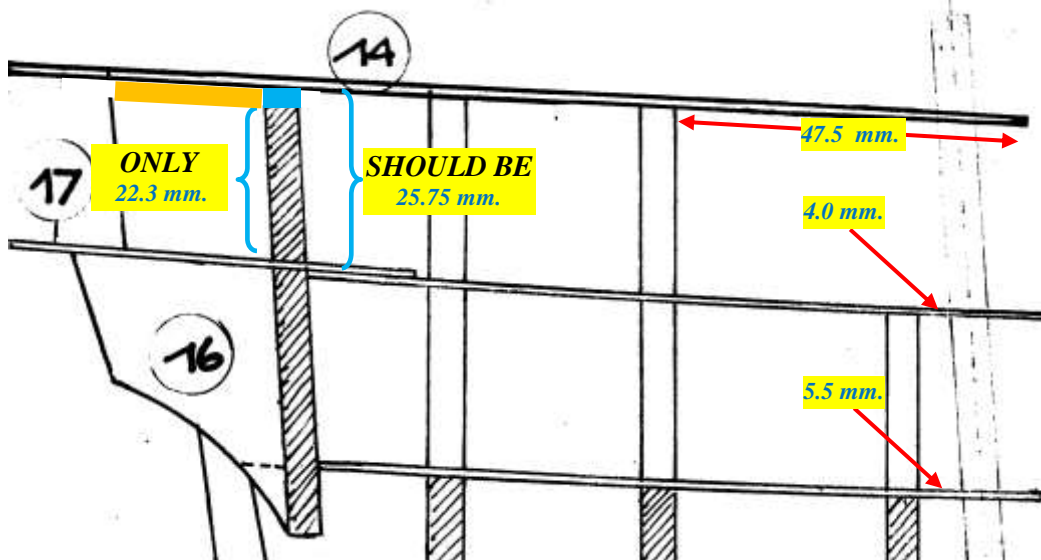

Figure 45: Quarter Deck Positioning
- height of Frame 14 was such that packing was required on the top edge (blue) to bring up to the level as shown in Plan Sheet 3 / Fig. 45 using some scrap first planking